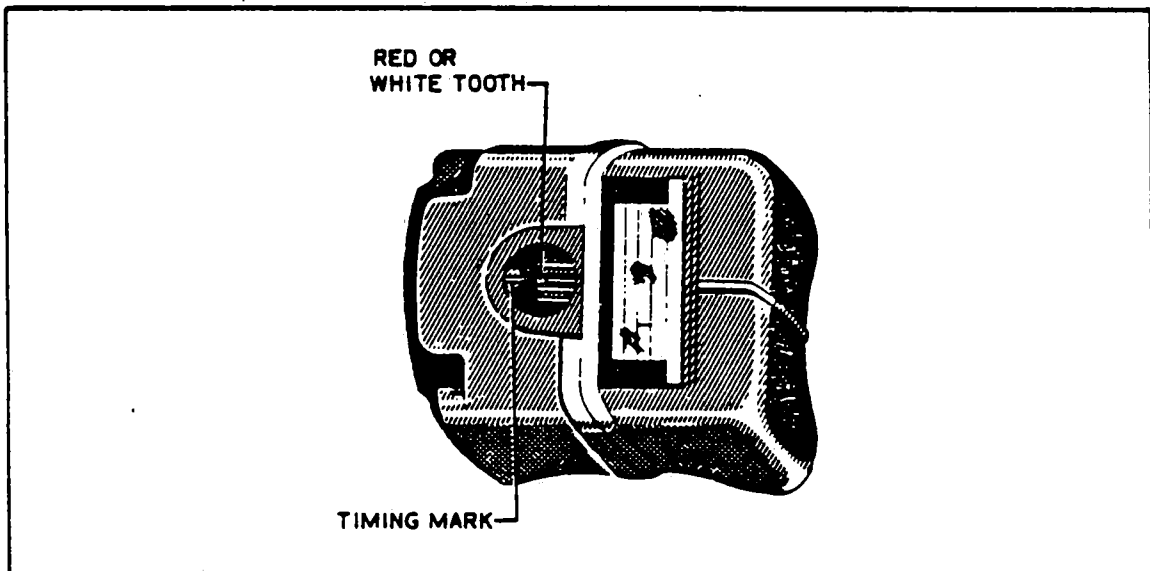

Figure 8A-1. Magneto Timing Marks
c. Rotate coupling from neutral in the direction of rotation 10 degrees. Appearing through timing hole, when the white or red tooth aligns with the white line of the distributor block the magneto is set at "E" gap. (Refer to Figure 8A-1.)